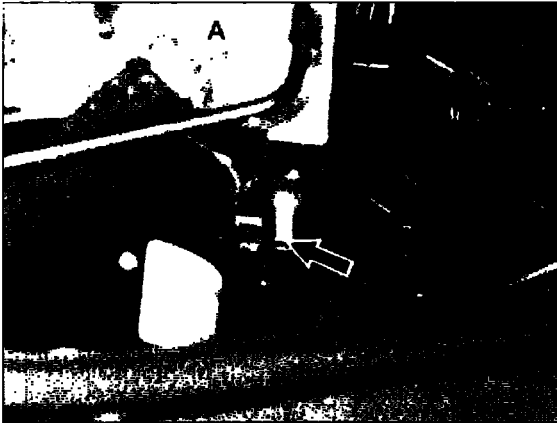

Figure 14
- Using hand tools, tap threads into SBC hydraulic unit bore by running self tapping screw (arrow, Figure 14) into lower bore **without** mounting bracket positioned on SBC unit (A).